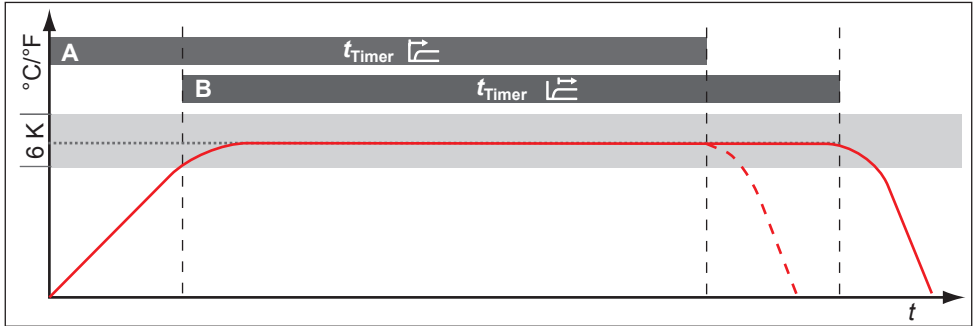

Fig. 37 Timer mode
Here, you can choose whether the digital backwards counter with target time setting (see page 34, timer) should be setpoint-dependent or not – this determines whether the timer should not start until a tolerance band of ± 3 K around the set temperature is reached (Fig. 37, B) or whether it should start immediately after activation (A).